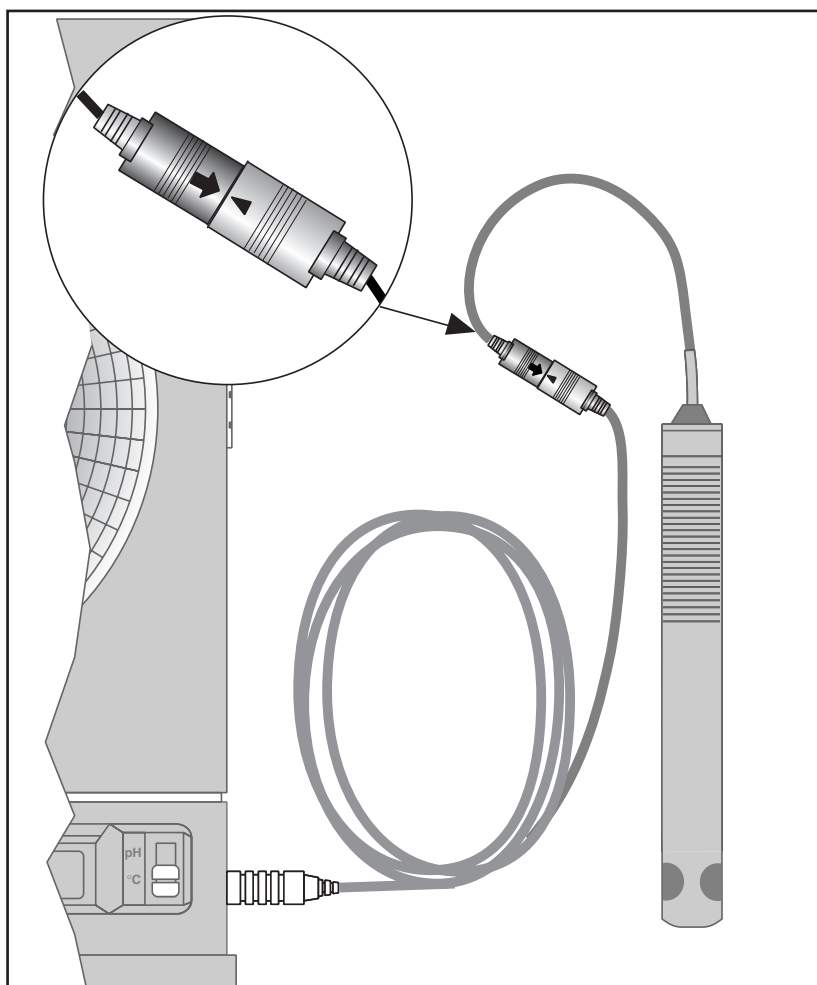

Figure 2-15. Using the Remote Probe Cable
1. Connect the end of the cable **with** the arrow to the cable on the probe. Line up the two arrows as shown in Figure 2-15 before mating the two cables.